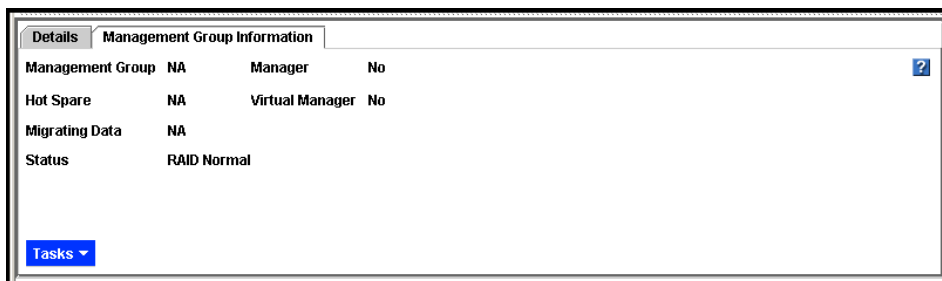

Figure 133. Management Group Information Tab
2. Click the Management Group Information tab in the Tab View, shown in Figure 133.